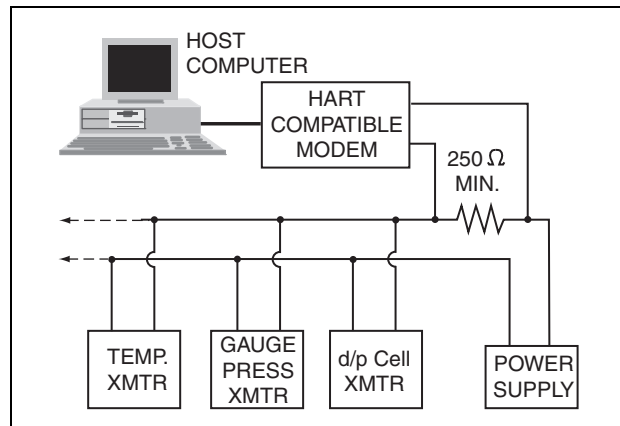

Figure 21. HART Multidrop Topology
- ▶ **Multidrop Mode (Fixed Current):** This mode supports communications with up to 15 transmitters on a single pair of signal/power wires. The output signal is updated 4 times/second. A minimum loop load of 250 ohms is required. See Table 1 for communication parameters and Figure 21 for a typical multidrop functional block diagram.